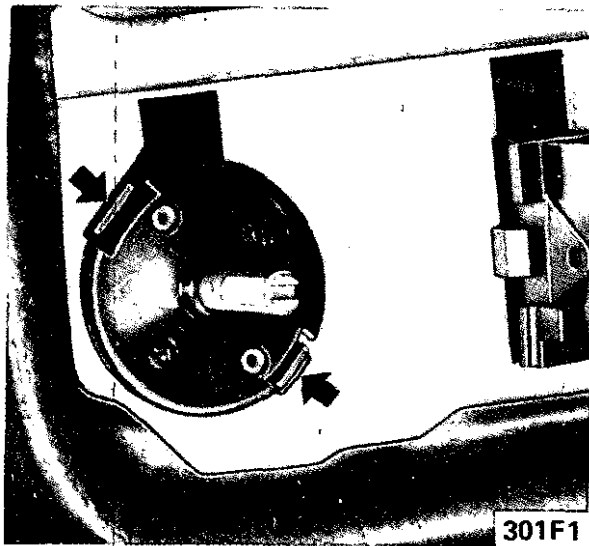

Figure 1 F-1 Removing Headlight Switch
2. Compress retaining springs and pull switch out. See Figure 1 F- 1.